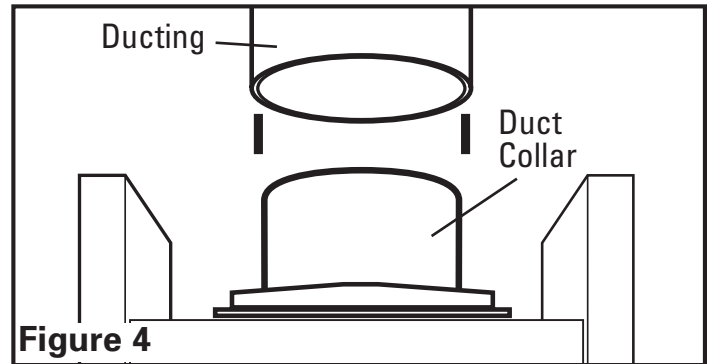

Figure 4
1. Connect the ducting to the fan's duct collar (**Figure 4**). Secure in place using tape or screw clamp. Always duct the fan to the outside through a wall or roof cap.